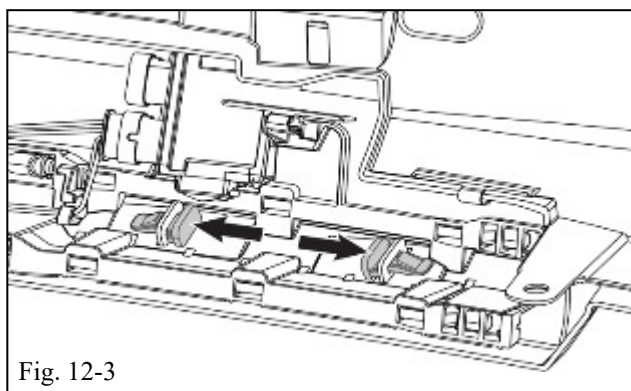

Fig. 12-3
- (f) Reinstall clips saved from Step 9-c into bracket tabs (Fig. 12-3).